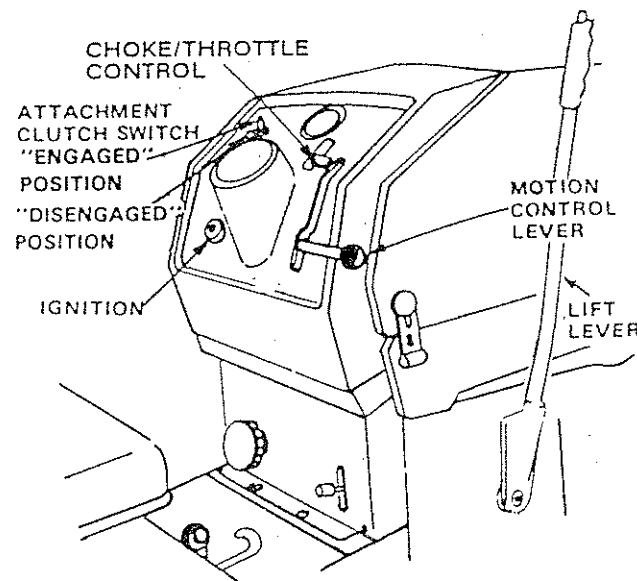

FIGURE 37
- Place Attachment Clutch Switch in "DISENGAGED" position (Fig. 37).